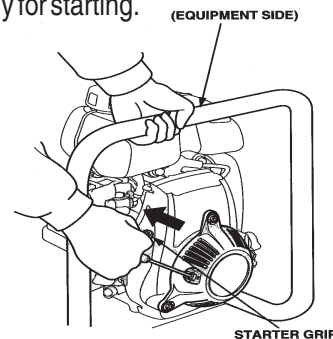

Figure 14. Starter Grip
7. Grasp the starter grip (Figure 14) and slowly pull it out. The resistance becomes the hardest at a certain position, corresponding to the compression point. Pull the starter grip briskly and smoothly for starting.